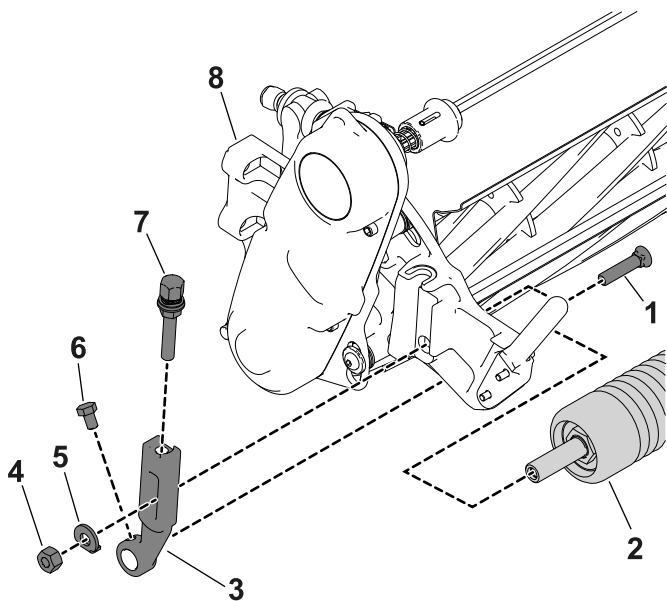

Figure 2
1. On the cutting unit, loosen the mounting screws that secure each end of the front roller to the height-of-cut arms (Figure 2).
2. Remove the plow bolts, washers, and locknuts securing the height-of-cut arms to each end of cutting unit (Figure 2). Remove the height-of-cut arms and roller.